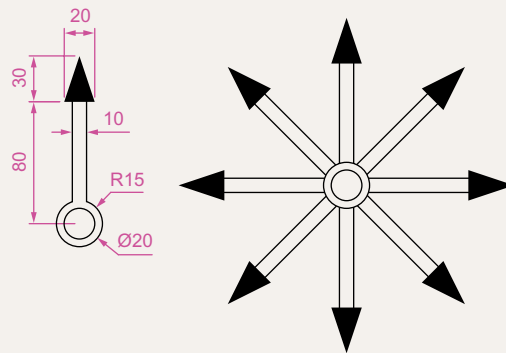

Fig. 5.51 Exercise 5
5. Construct the arrow (Fig. 5.51). Array the arrow around the centre of its circle 8 times to produce the right-hand drawing of Fig. 5.51.